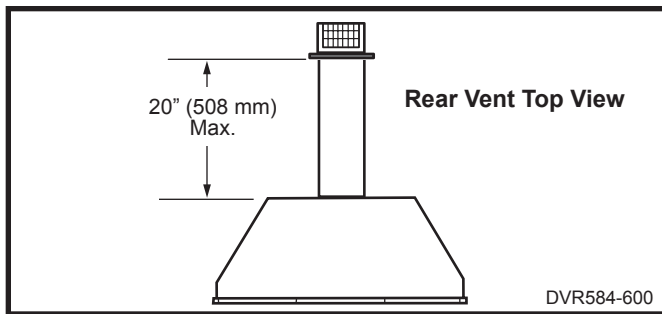

Fig. 19 Rear vent application, no elbows.
- The maximum horizontal distance between the rear of the appliance (or end of the transition elbow in a corner application) and the outside face of the rear wall is 20" (508 mm). (Fig. 19, 20)
Measure the horizontal length requirement for the venting including a 2" (51 mm) overlap, i.e. from the elbow to the outside wall face plus 2" (51 mm). (Fig. 19, 20)